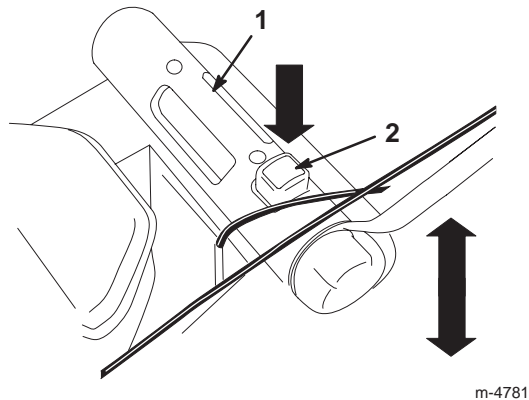

Figure 15
4. Press down on the red button and hold the cutting height adjustment handle to move the cutting height up or down (Fig. 15).